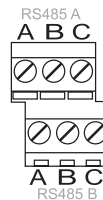

Figure 4.25 – RS485 port connectors
- Connect the two cores of the RS485 cable to screw terminals A & B of Port A on the backplane- see Figure 4.25.